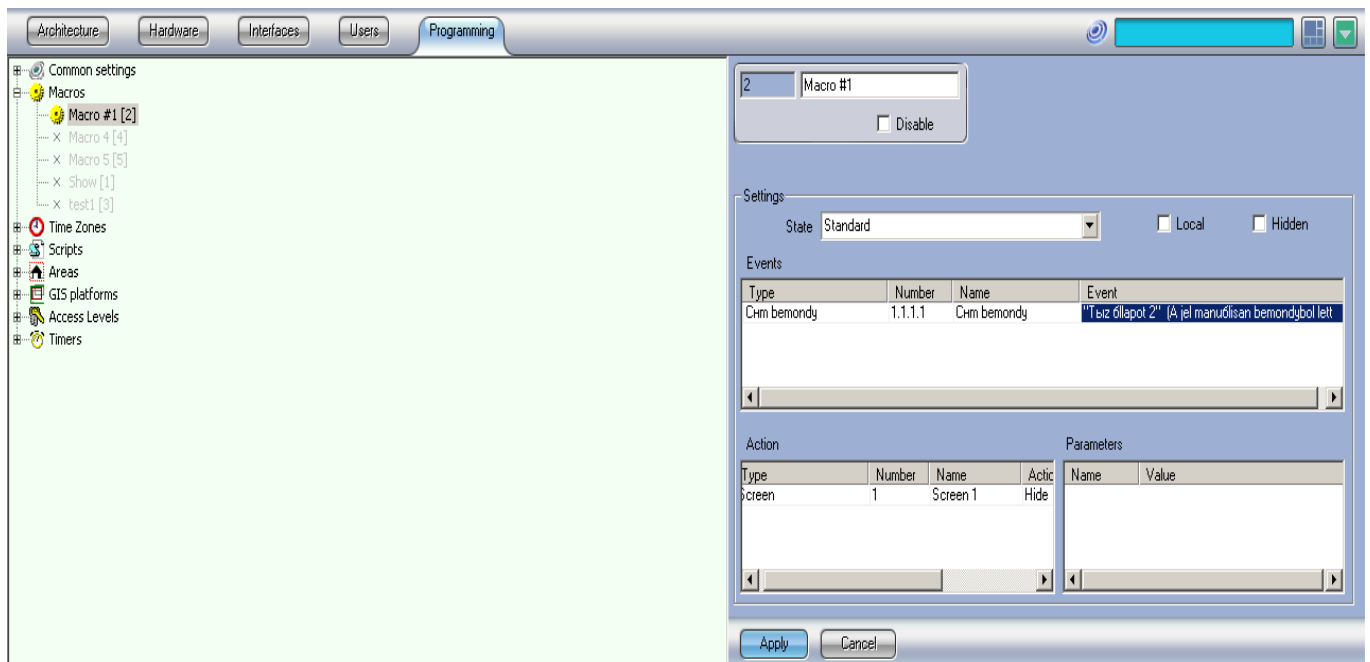

fig. 44
- Using “Macros” program module – this is the most user-friendly manner (fig. 44);